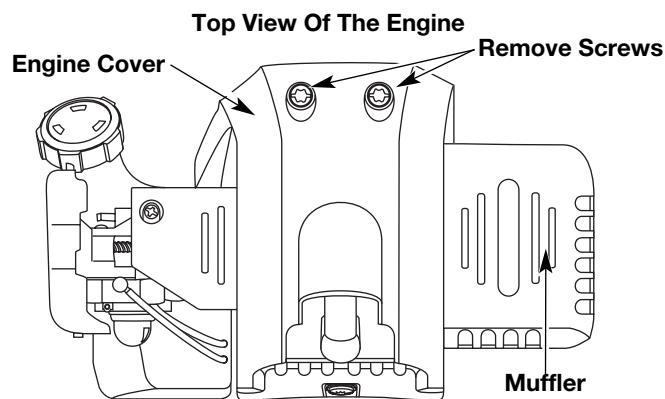

Figure 37
2. Remove the two (2) screws on top of the engine cover with a Flat-head or T-20 Torx screwdriver. See Figure 37.
6. Remove the engine cover. See Figure 37.